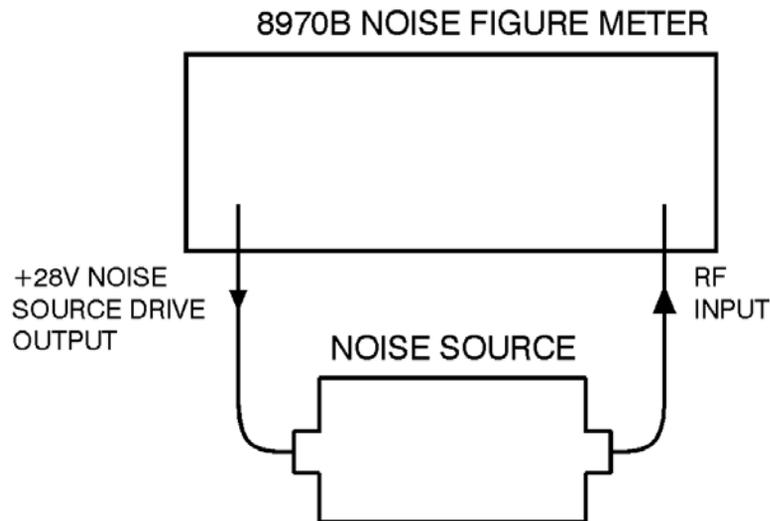

Figure 4-3 Operator's check test setup 2a
- 2 Connect the equipment as shown in Figure 4-3.